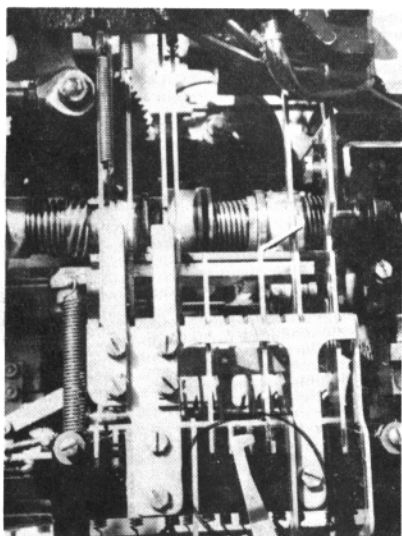

Figure 1. Photo showing the function bar comb and also (circled) the downshift-on-space lever.
The easiest of these to fix is the first, as nearly all model 15 and 19 machines have a lever on the under side of the printer that gives "downshift on space". Many commercial and military circuits do not use this most desirable feature for reasons certainly known only to them. Perhaps if we ran 10 Kw. transmitters to rhombic antennas and changed bands when the going got the slightest bit rough we could dispense with it also. At any rate, you probably already have the lever on your machine, it's on the bottom side -- lift the printer unit off the base and you will soon see it. Directly on the bottom of the machine is the function bar "comb" which is visible in Figure 1, about the middle of this comb on the forward edge is the lever that swings a little left and right. It is a little over two inches long, and is tightened with a screwdriver. Loosen it and swing it out of the way, then tighten again. That's all there is to it. That gives you automatic "downshift on space".
be staring you directly in the face. Figure 1 is an actual photo showing this function bar comb. The comb is held in place by three hex-headed screws. Before removing these make a careful mental note of what it holds in place and where. Best yet, draw yourself a picture. The photo will help in reassembly. This part is the only tough part in the entire modification. You cannot be too careful in taking notes on that function bar comb. Now remove the comb. You will see the various function bars. The one second from the left (slot 2) is the "carriage return" function bar, and it is better identified (when once removed) as it has a number "2" stamped on it. To remove this function bar, first disconnect its spring. It may then be possible to work it free of the bail assembly, but that's too hard of a job, as you will want to put it back into the empty "tab slot" (slot 6) anyway, in order to suppress spacing when a "CR" function is received.
the bearing will come out and then the roller bar may be pulled out. It is an easy job and so much harder to explain than to accomplish. Now that the roller bar is out of the way, it is simple to pull out the "CR" function bar from slot 2, then place it in the empty "tab slot" (6). Look back where the springs attach for the function bars, and there will only be one empty spring hole. That is where the "CR" function bar goes. Hook up the spring. You are now done in this section, so put the roller bar back in place, then reinstall the "function lever comb". If you have not taken careful notes of what was in which slot of the function comb, you may swear a few times in the process. Again, the photo of Figure 1 may help a little. You may wish you had three or four hands instead of two, but it's not really too hard a job and just takes a little patience to jockey everything into position -- it takes no particular talent, just a little time. It's surely well worth the effort, however.